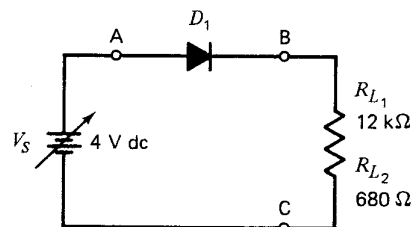

Fig. 51-2. Forward-biasing the diode.
2. Connect the circuit of Fig. 51-2, with R_{L1} equal to 12 k Ω . By use of the oscilloscope, measure and record in Table 51-1 the voltage of the power supply (V_T), the voltage across the diode (V_D), and the voltage across the load resistor (V_{R1}). Also, with the oscilloscope across the diode, slowly increase the power supply from 0 to 4 V and note that the voltage across the diode should increase to approximately 0.65 V and remain constant regardless of any further increase in supply voltage.
4. Reverse the power supply leads so that the polarity is reversed for the circuit of Fig. 51-2. The diode is now reversed-biased. For both values of load resistance (12 k Ω and 680 Ω), measure and record in Table 51-1 the values of V_T , V_{R1} , and V_D .